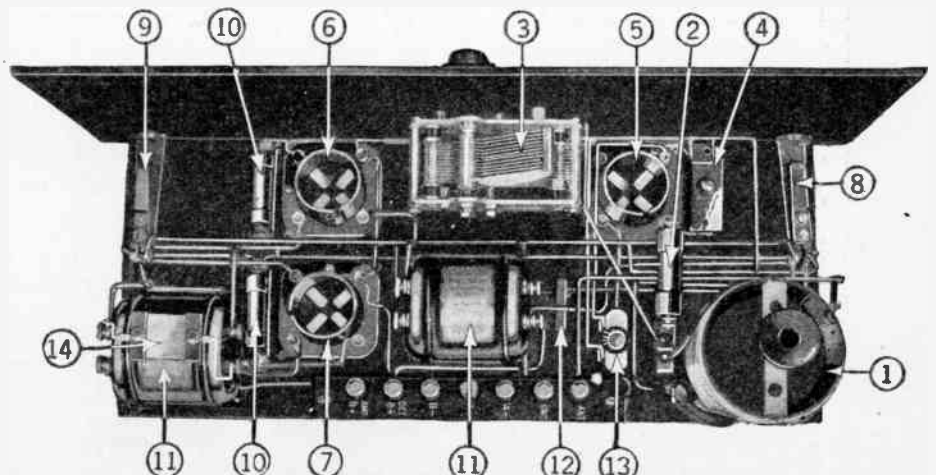

Fig. 6. View from above the complete 3-tube set. All figures given here are identical with key figures in illustrations 4 and 8. Note simplicity of wiring.
**ILLUSTRATION 8.** Complete wiring diagram of 3-tube Regenerative Interflex. Note the simplicity of the wiring. The parts shown here are the ones actually used by the author. The condenser (3) is a straight line frequency type, although any other type can be used. The author, however, advises the use of straight line frequency, because the set tunes extremely sharply, more sharply than most sets, and unless such a condenser is used, with a good vernier dial, it is almost impossible to separate the stations. The condenser (14) is not always necessary and depends upon what transformers are used. It is used only when an audio frequency howl develops. Note that the crystal detector (2) should be connected directly to the grid of tube (5); that is, the connection from the grid to the detector should be as short as is humanly possible. The bracket in this case is mounted right on the socket for best results.
One of the critical adjustments of the set is the carbon rheostat (13). Wire-wound rheostats are not advised by the author. This rheostat adapts almost every crystal to its tube. If the set tends to over-oscillate, that is, squeal or howl, slight adjustment of condenser (4) will bring the set to its best operation. Keep all wires away from crystal detector (2) as much as possible, an inch or more. Mount crystal detector as high as possible, as shown in Fig. 6, with wiring underneath at least an inch to an inch and a half away from the crystal detector. Another feature of this wiring diagram is that as you go along and wire two points, run a colored pencil over the black and white dash and dot lines. When all lines are thus colored, your wiring is complete.